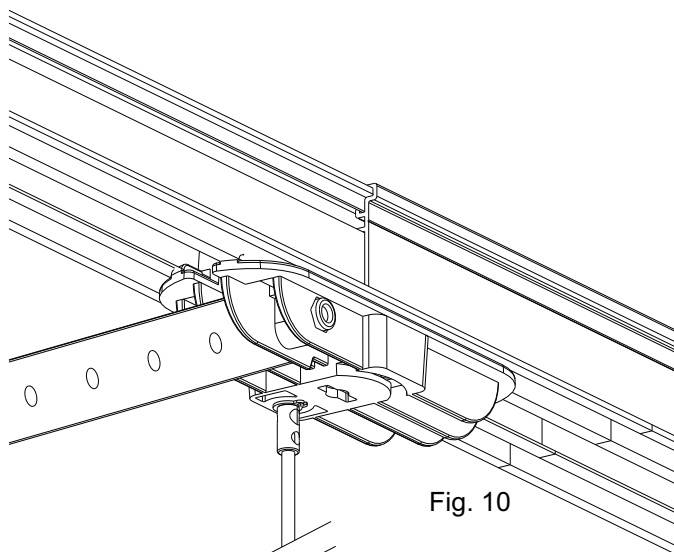

Fig. 10
- Pull the release knob and open the door manually (Fig. 10).